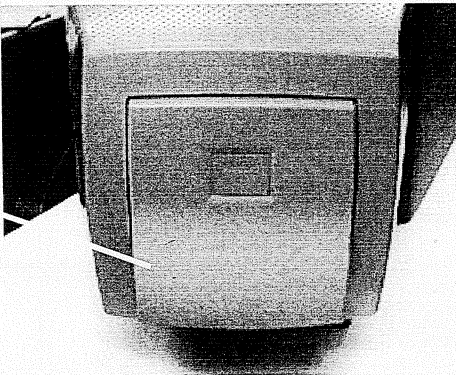

Fig. 3.2
- Step 1: Remove the "cable cover" as shown in Fig. 3.2.